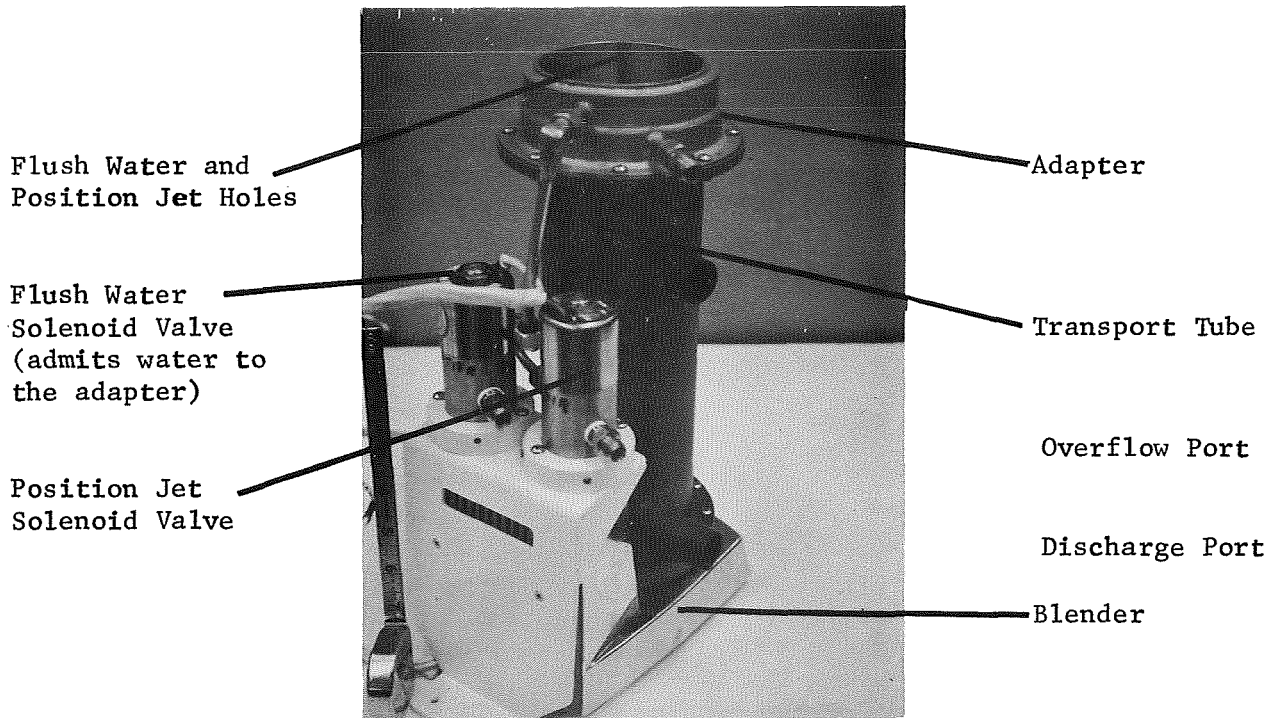

FIGURE 11. BLENDER ASSEMBLY
4.3 Blender (See Figure 11)
4.16 Adapter (See Figures 11 and 22)
4.18 Solenoid Valves (See Figure 11)